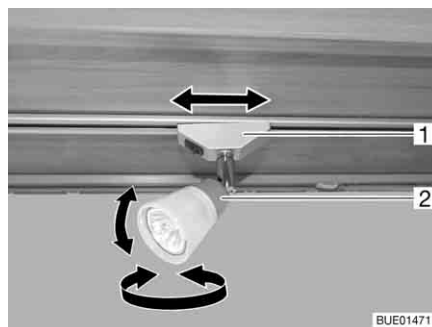

Fig. 66 Spotlight
*Rotating:* ■ Grasp the housing (Fig. 66,2) and turn it.
*Shifting:* ■ Grip holder (Fig. 66,1) and turn by approx. 45°.
- Grip holder (Fig. 66,1) and turn by approx. 90°.